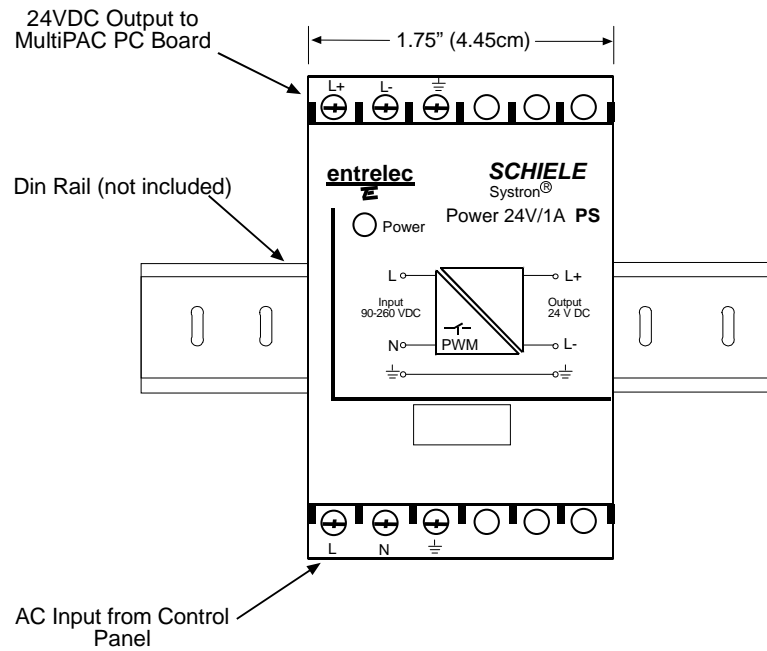

Figure 2-4. MultiPAC 24VDC Power Supply front view mounted on Din Rail (not included)
- Never run wires for 120V and for lower voltages (such as 24V, 60V) inside the same conduit. Run flexible, liquid-tight conduit for high voltage lines (120V power) to the AC Input of your Power Supply (see fig. 2-4).
3. Find a convenient place to mount your switching power supply. Refer to Figures 2-4 and 2-5 for dimensions.
4. Mount a short piece of din rail (not provided) approx. 2” long close to where you just located your PC board. Refer to drawing in Figure 2-4 or mount on an existing rail.
5. Snap power supply onto din rail. Refer to Figure 2-4.
2. Locate the connector on the bottom of the power supply. Refer to fig 2.4 for its exact location.
5. Insert wires into connector according to color. Black (HI) into connector on Power Supply marked with the letter “L”, White (neutral) into the connector marked with the letter “N” and Green (Ground) into the connector marked with the ground symbol.